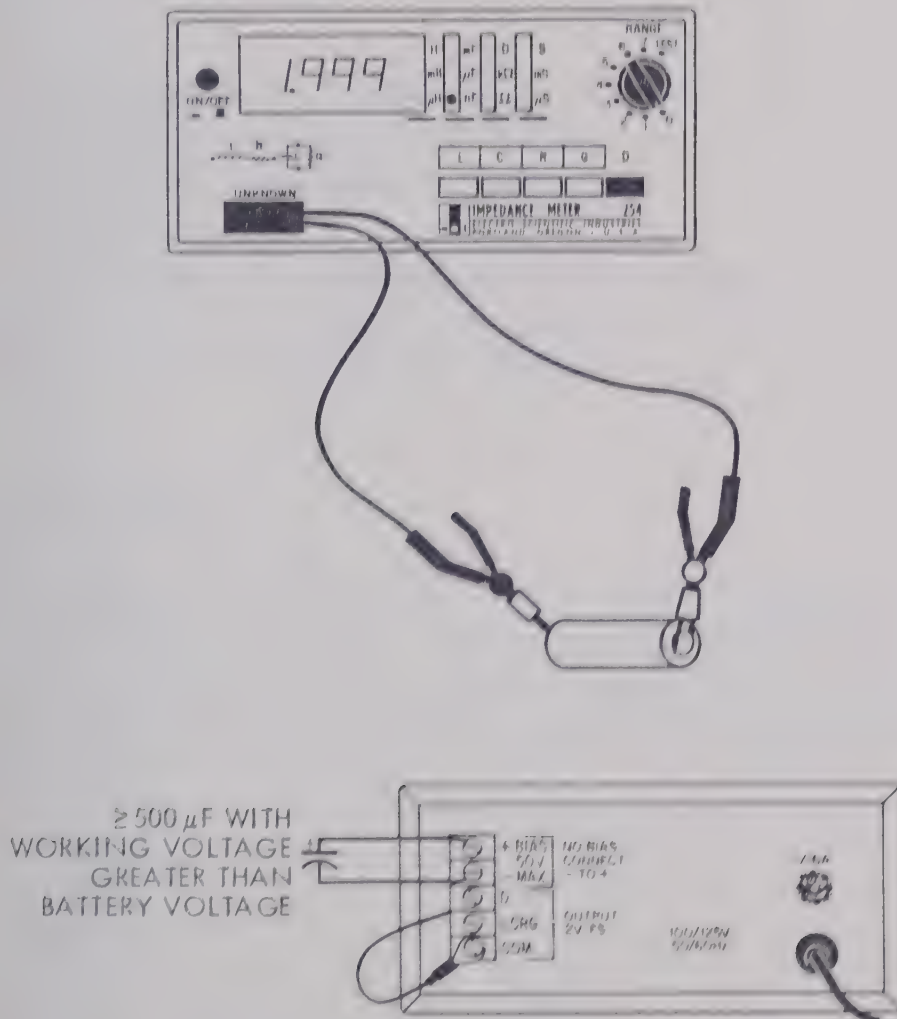

Figure 2-14. Measuring Battery Impedance.
3. Connect a 500 $\mu$ F (or larger) capacitor, whose working voltage is greater than the rated voltage of the battery, to the bias terminals (see Figure 2-14). Observe correct polarity when connecting the capacitor.
4. Connect the test leads with the red hinge-spool to the positive battery terminal and the lead with the black hinge-spool to the negative terminal (see Figure 2-14).
The Ls function must be used to measure the series capacitance of a battery. Instrument set up is the same as for Rs measurements (Figure 2-14). A negative reading will be shown, and the following equation must be used to convert the "-Ls" reading to "+Cs" values: